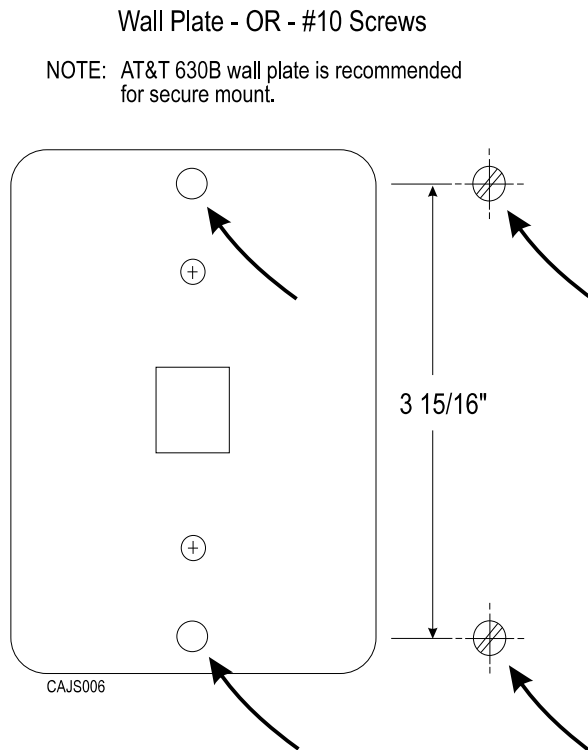

Figure 2-9: Station Wall Mounting Details
1. If #10 screws are used, thread them into the wall within 1/8-inch of the surface. Refer to **Figure 2-9** for the spacing dimensions.